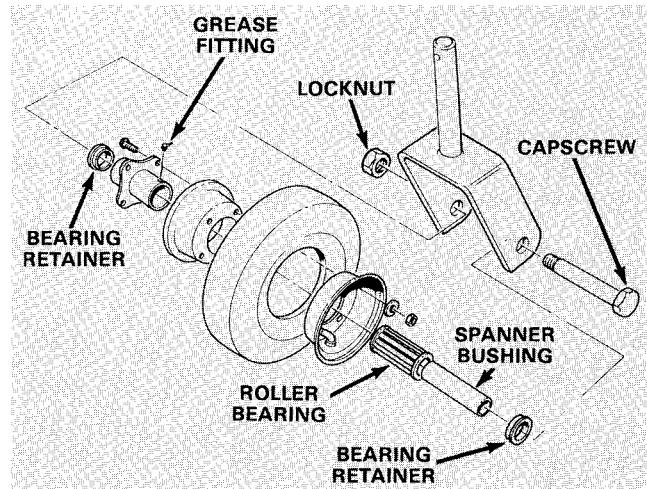

Figure 22
1. Remove locknut from capscrew holding castor wheel assembly between castor fork (Fig. 22). Grasp castor wheel and slide capscrew out of fork.
Note: Account for the two bearing retainers (Fig. 22).
2. Tip wheel to the side and allow roller bearing and spanner bushing to fall out (Fig. 22).
6. Pump more grease through grease fitting on wheel (Fig. 22) until bearing is greased thoroughly.